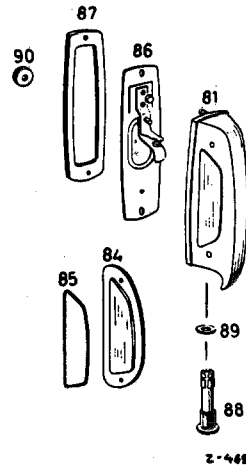

Fig. 82 — 12/1
1. Unscrew the closing plug (88) on the lower side of the license plate light and remove it together with the bulb (see Fig. 82 — 12/1).
2. Screw the closing plug, together with the bulb, into the license plate light. Do not forget the sealing ring (89) (Fig. 82 — 12/1).
3. Lift off the license plate light housing (81) and disconnect the electric cable at the back plate (86) (see Fig. 82 — 12/1).
2. Unscrew the two oval-head countersunk screws with hexagon nuts and take off the transparent pane (84) together with the seal (85) (see Fig. 82 — 12/1).